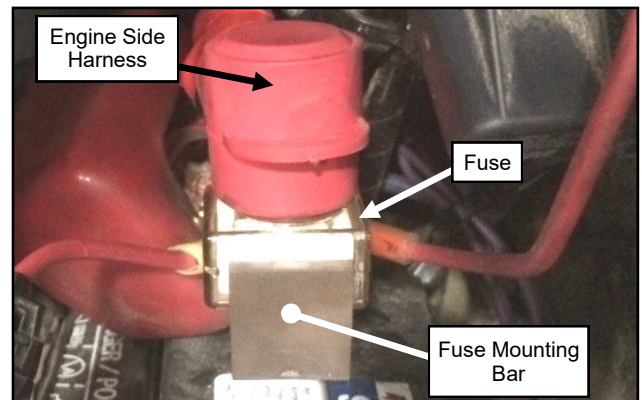

Fig. 4.5 (Install A/C Power Supply Harnesses, Battery Side)
- 4.5** Install Fuse Mounting Bar, 100 amp fuse and engine side A/C Power Supply harness to the positive terminal found on the vehicle's battery. See fig 4.5.